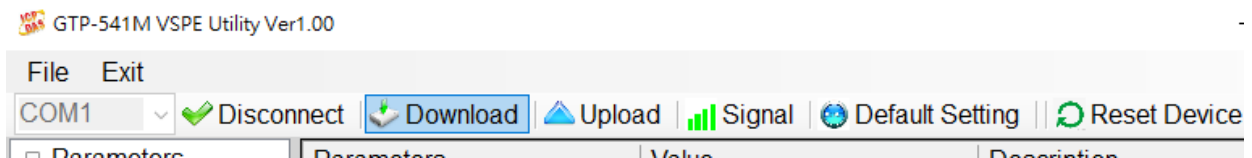

Figure 10.8.1.12
13. Disconnect the Init. pin and GND pin, restart GTP-541M, as shown in Figure 10.8.1.13